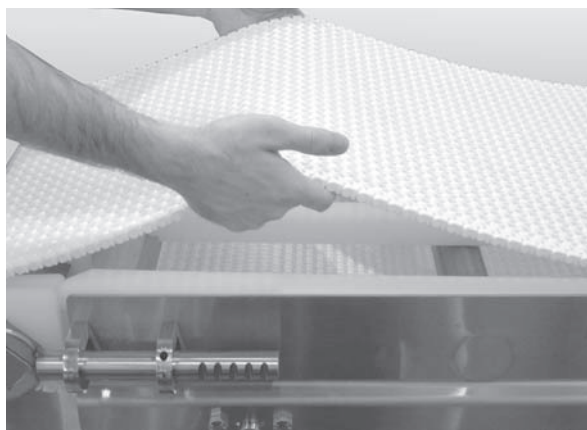

Figure 45
3. Lift up on the belt (Figure 45).